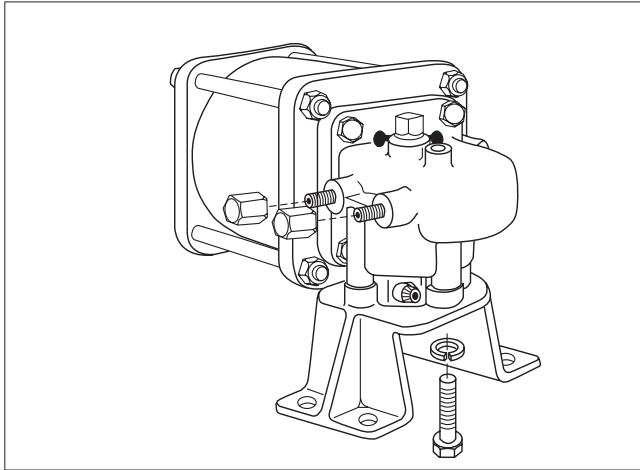

Figure 9.
8. A sealant is required between the seat tail and the body as shown in (in **Figure 9**). The valve uses PTFE paste sealant. This is installed in accordance with the following steps:
9. Verify the disc is in the level position and install the seat (5) and insert (2) (**See Figure 9**).